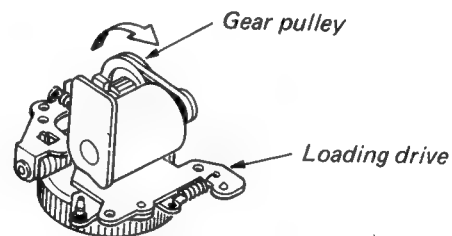

Fig. 1-3-27 Loading drive - FF mode
- 2) Remove the washer ① and disconnect the pinch connector.
- 3) Remove the cam lever stopper and the washer ②, and remove the cam lever assembly upward.
- 4) Turn the gear pulley in direction shown by the arrow until it stops to set the FF/REW mode. (Refer to Fig. 1-3-27)
- 5) Remove the screws ③ and remove the loading drive assembly.
- 6) Remove the loading belt and the screws ④, and remove the motor.